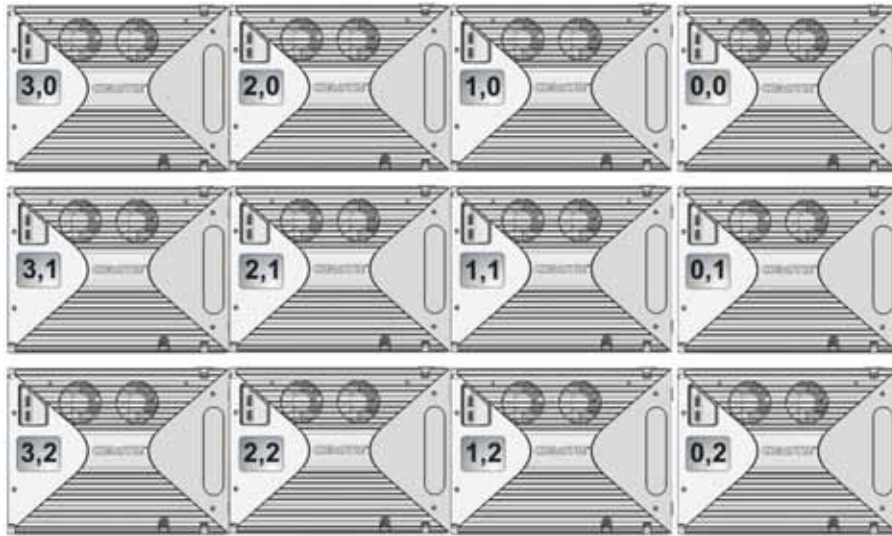

Figure 3-49 Tile Numbering Sequence (Back View)
- **XY:** XY coordinates of the tile in the array. Arrays are counted in the XY-axis and always starts from the top-left corner of the array (**Figure 3-49**).